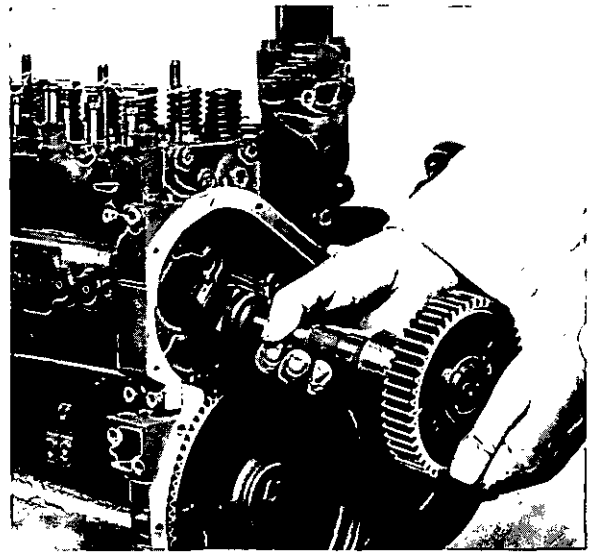

Fig. G.8
5. Lift tappets and remove camshaft and gear from its location in cylinder block taking care not to damage journals, cams or tappets (Fig. G.8).